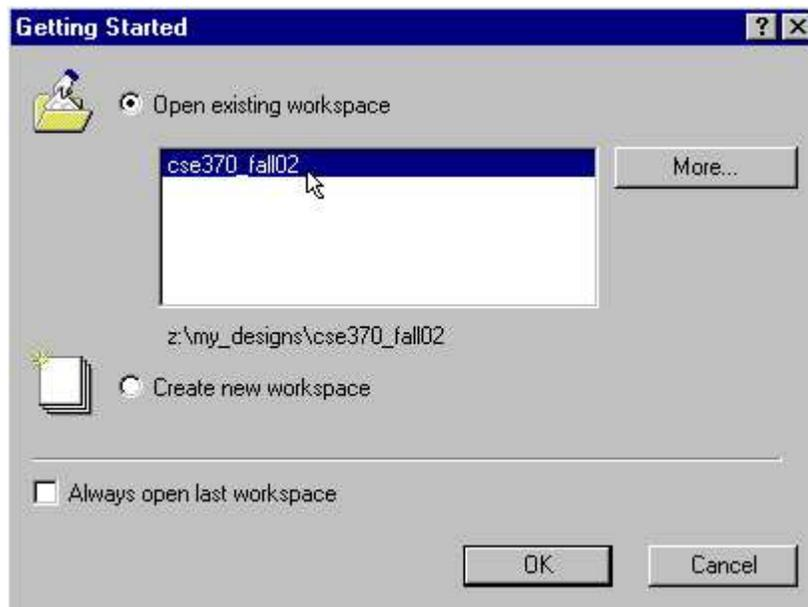

Figure 1
2. Select the “Open existing workspace” option and select your workspace from Tutorial #1 in the window, or click the “More...” button to attach and open it (Figure 1).